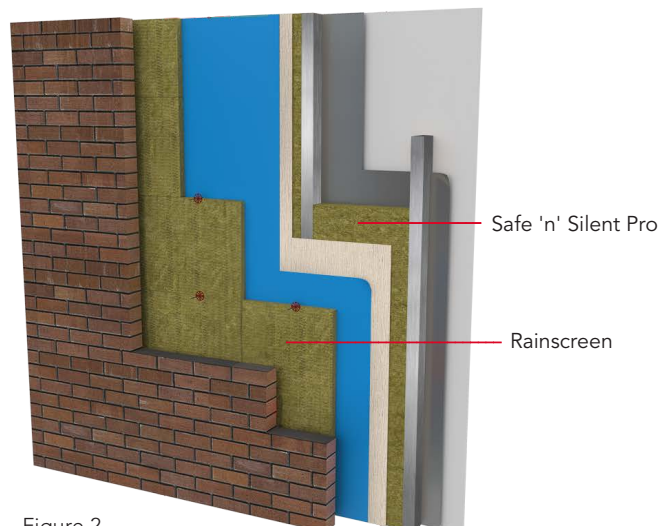

Figure 2
- Whenever required, a vapour control layer (VCL) is placed between the plasterboard and the frame. A breathable membrane is placed between the sheathing board and the product—see Figure 2.